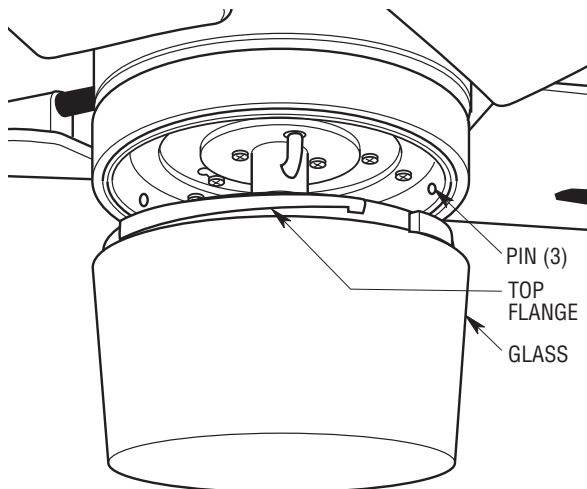

Figure 17
2. Place the glass onto the light kit assembly aligning the three flat areas on the top flange of the glass with the three pins on the inside of the assembly (Figure 17). Then turn the glass clockwise until it stops turning.